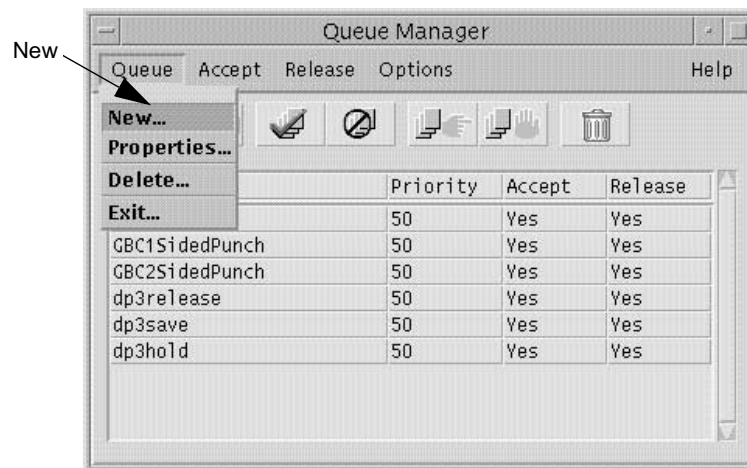

Figure 1-17: The Queue Menu in Queue Manager
- 2 Pull down the **Queue** menu from the toolbar and select **New**, as shown in Figure 1-17.